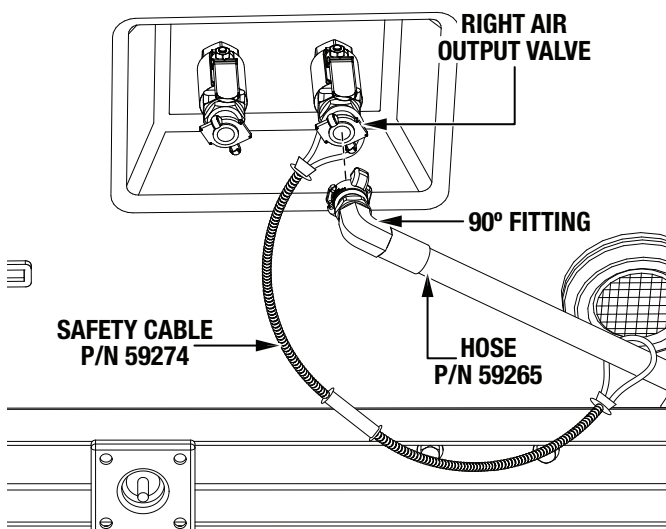

Figure 33. Connect Hose to Output Valve
3. Loop one end of the safety cable (P/N 59274) onto the right air output valve at the rear of the air compressor. See Figure 33.
4. Loop the other end of the safety cable (P/N 59274) onto the 90-degree fitting end of the hose (P/N 59265). See Figure 33.
5. Connect the 90-degree fitting on the hose (P/N 59265) to the right air output valve at the rear of the air compressor. See Figure 33.